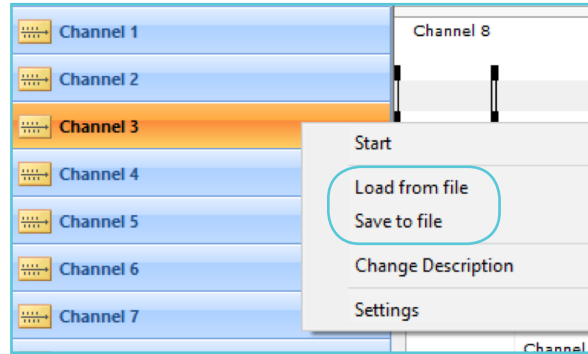

Figure 4.2.3
- By saving a protocol for a single channel right click on the channel and press save as shown in figure 4.2.3. The file will get the file extension plc.
This file can now be loaded into any other single channel of choice by pressing Load from file (figure 4.2.3). Select a single channel file (*.plc) e.g. as shown in figure 4.2.4 the protocol 'Single-channel-test2' has been selected and loaded. The File names loaded into each channel is listed in the column File name.